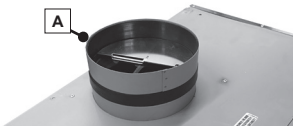

FIGURE 6
6. Before installing the hood, put the damper **A** (which is located inside of Kit Internal 300 cfm Blower sku #; IB300 or Internal 400 cfm Blower sku #; IB400 or Internal 600 cfm PRO Blower sku #; IB600. Figure 6).